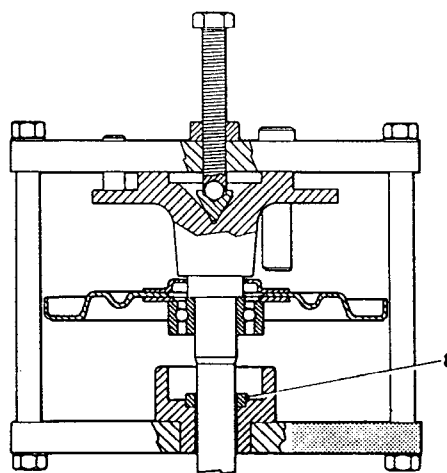

Fig 5. Axle bearing and retainer replacement
Referring to Fig. 5, position the axle shaft bearing and retainer replacer tool (FX 4263) in a bench vice so that the vice jaws firmly grip the shaded portion of the bottom plate (1) of the tool. Take off the top plate (5) of the tool and locate the adaptor ring (2) in position in the bottom plate.